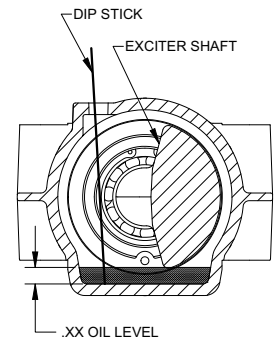

FIGURE 3
9. Rotate exciter shaft so a metal dip stick can be inserted into exciter (see Figure 3).
10. Place a clean metal rod through the oil fill hole as shown in Figure 3.